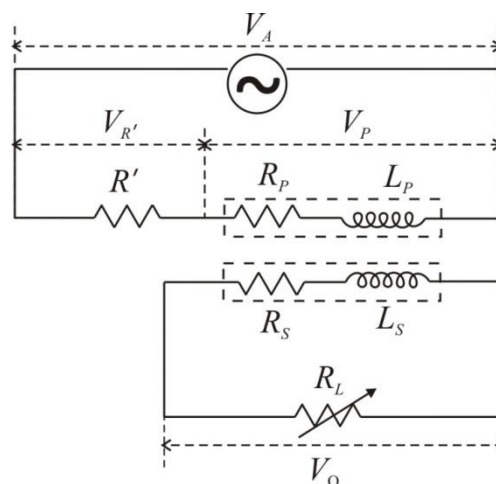

Fig.3
- p) Connect the coils as in **Part 2 Fig.3** and insert the piece of aluminium rod at the core of the coils. Write down the expression giving the power loss ΔP in the aluminium core.